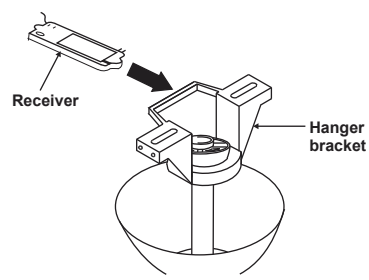

Figure 8
Step 1. (Fig. 8) Insert the receiver into the hanger bracket with the flat side of the receiver facing the ceiling.